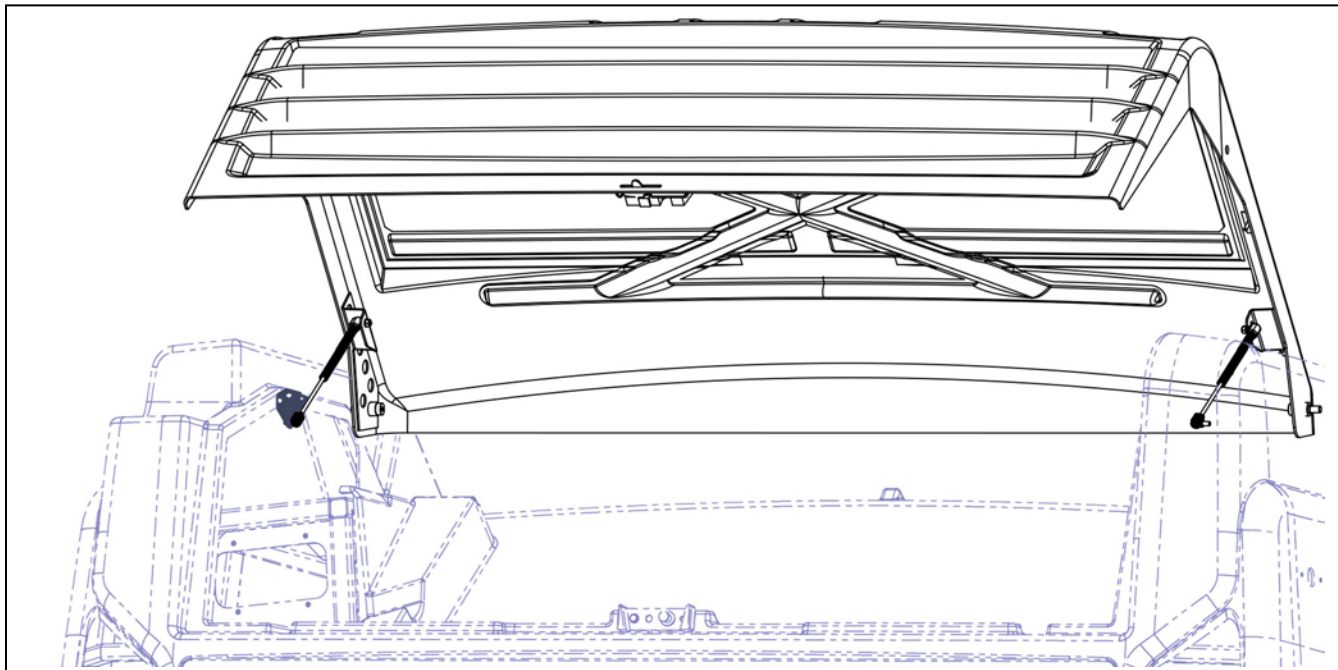

Figure 2 - Radiator Access Door
- 1.2. Open the radiator access door. See Figure 2.